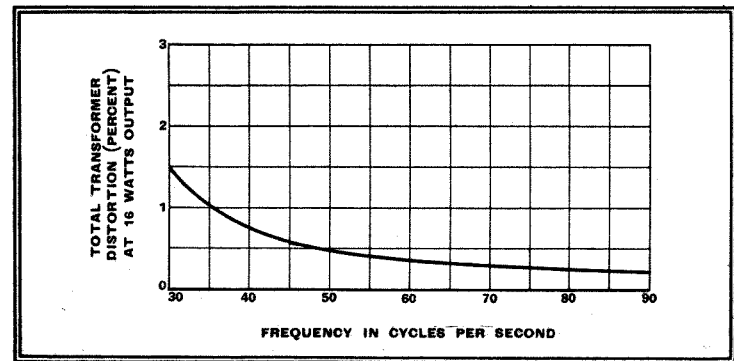

Fig. 13.—These curves relate to the same transformer as Fig. 12 and show how the distortion at full load varies with frequency.
0.5 per cent, which is very satisfactory. In Part IV of this series it will be shown how even better results are possible by using a different magnetic material and a modified design technique. Fig. 13 shows how the distortion at full output varies with frequency and corresponds to Fig. 10 relating to Example 1.
When reviewing the latter curve (Fig. 13) it must be borne in mind that the full output at